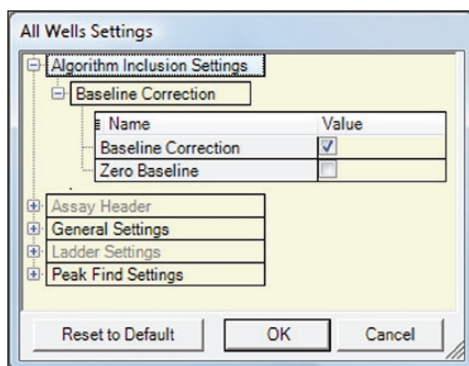

Fig. 6.2. Algorithm Inclusion Settings window.
- Under the **Settings** tab, select one of the following two options under **Algorithm Inclusion Settings** (Figure 6.2):
- In the **All Well Settings** dialog, expand **Algorithm Inclusion Settings** and select the type of modification you would like to apply (see above for descriptions or Figure 6.2). Click **OK**.